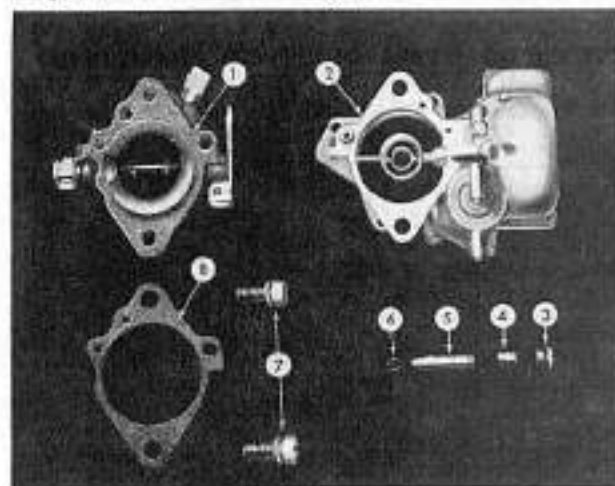

FIG. 403
Remove the two screws (7, Fig. 403) which hold the main carburetor body (2) to the throttle body (1) and separate the two pieces. Remove the throttle body gasket (8). Using Jet Wrench J-816-6, remove the main discharge nozzle passage plug (3). Remove the main discharge nozzle retainer plug (4) using Jet Wrench J-816-2. To remove the main discharge nozzle (5), use Jet Extractor J-508. Be sure to remove the small copper gasket (6) which fits around the seat of the nozzle.
Place a new copper gasket (6, Fig. 403) on the main discharge nozzle (5) and install the nozzle with the flat at the end of the nozzle up. Using Jet Wrench J-816-2, install the main discharge retainer plug (4). The main discharge nozzle passage plug (3) can then be installed with Jet Wrench J-816-6. After installing a new gasket (8), attach the main carburetor body (2) to the throttle body (1) with the two screws